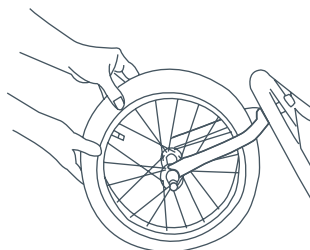

Fig. 2
- 2) • Slide the front wheel onto the front fork (Fig. 2).